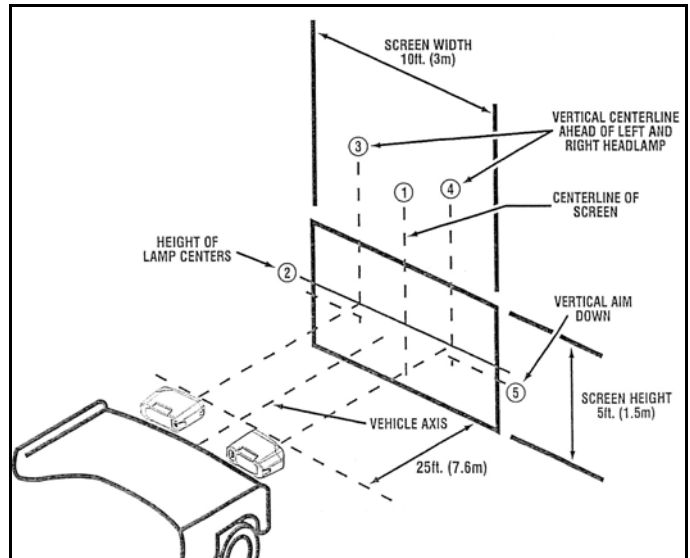

Figure 2-6 Alignment of Headlamp Aiming Screen
The vehicle must be positioned 25 feet (7.6 m) away from the aiming wall. The center of the vehicle must be aligned with the center of the wall. This can be facilitated by using black tape to mark the wall. The wall will require a vertical line that represents the center line of the vehicle and the wall (Line 1), and a horizontal line that represents the center line height of the snow plow lamps (Line 2), (reference item 9 below). The wall will also require two vertical lines bisecting the horizontal line that provides the distance between the snow plow headlamps (Lines 3 left and 4 right). Locate the high beam light on each snow plow lamp and project the location onto the front lens with the aid of a small 1/2" piece of black tape. Then, using a tape measure, accurately measure the distance between the black tape left and right light centers. Once the distance has been determined, divide the distance by two. This is the distance between Line #1 to Line #3 and Line #1 to Line #4. (See Figure 2-6) Finally, the wall will require a horizontal line that represents the nominal vertical aim position down (Line 5), (reference item 10 below). (See Figure 2-6)
10. Reference Table #1 and determine the nominal vertical aim down below the horizontal center line of the snow plow headlamps. Using black tap, draw this horizontal line (Line 5). (See Figure 2-6)